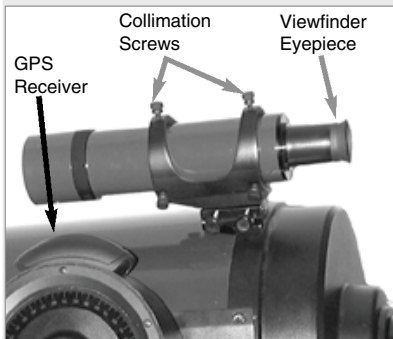

Fig. 10: Viewfinder collimation screws and eyepiece.
5. Look through the viewfinder eyepiece (**Fig. 10**) and loosen or tighten, as appropriate, one or more of the viewfinder collimation screws (**Fig. 10**) until the viewfinder crosshairs are precisely centered on the object you previously centered in the telescope eyepiece.